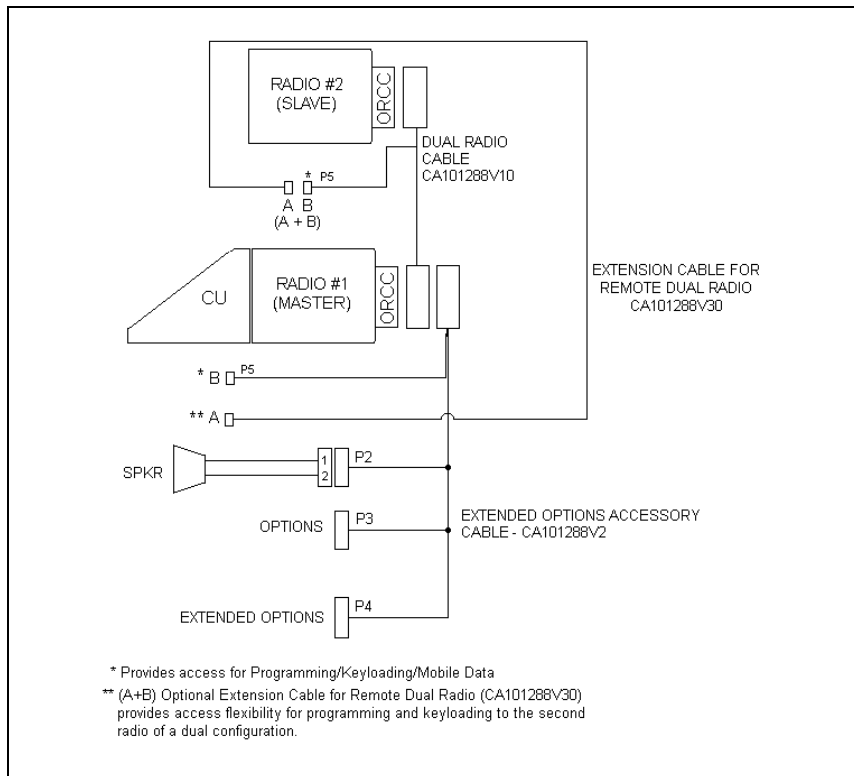

Figure 11-1: M7100^{IP} Dual Radio Front Mount/Remote Mount Installation Configuration
1. Plan the mounting locations of the two Radio Units. Note that the maximum cable length allowed between the two radios is two meters. Referring to Figure 11-1, run Dual Radio Cable (CA101288V10) between locations for